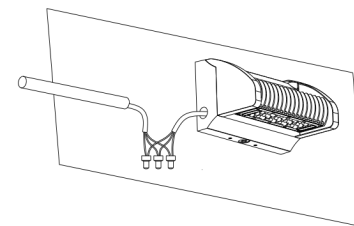

Figure 2-4
- 4.Fix the luminaire on the bracket; make wiring connection from side and go through isolation treatment. (Figure 2-4)